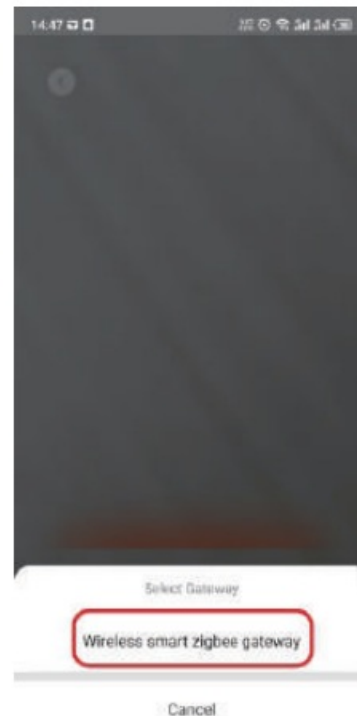

Fig3.4
- **Method 1:** Scan the QR code to configure the network guide (Fig 3.1-Fig 3.4)